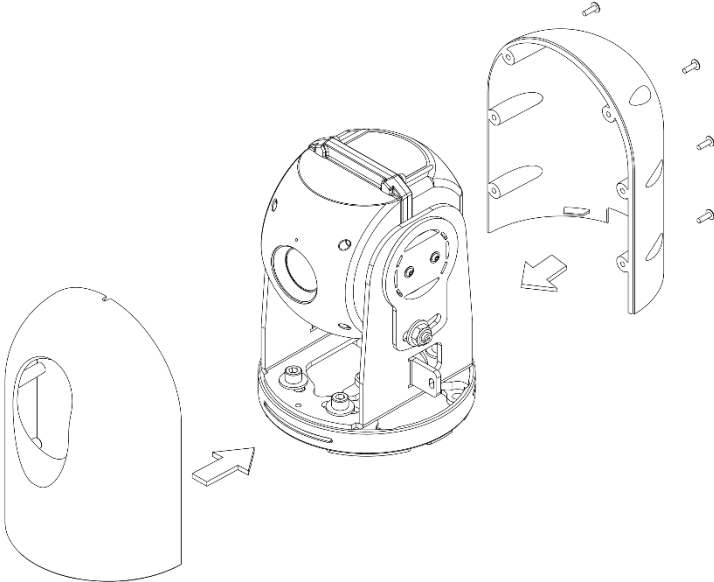

Figure 30: Cover Screws Diagram
Use the "cover screw" (item 10) to install the covers. See Figure 30.